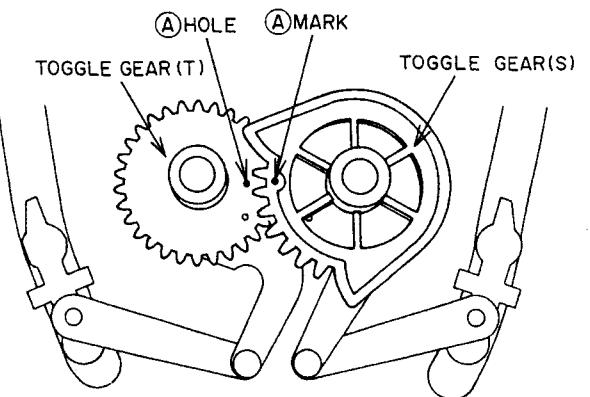

Fig. 3-8
- 1) Set the TOGGLE GEARS (T) and (S) to the unloaded position with your fingers. Align the Ⓐ mark on TOGGLE GEAR (S) with the Ⓐ hole of TOGGLE GEAR (T) as shown in Fig. 3-8.